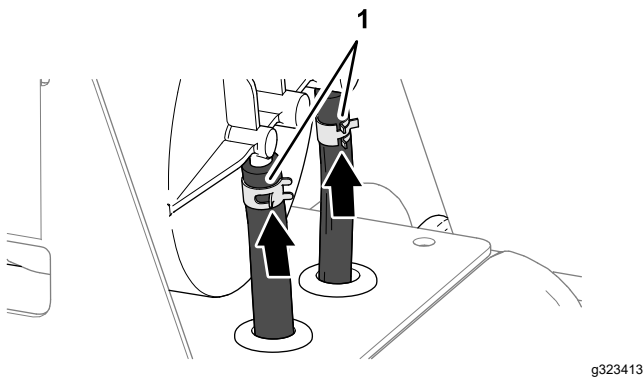

Figure 79
4. Secure the hoses to the fittings with the clamps (Figure 79).